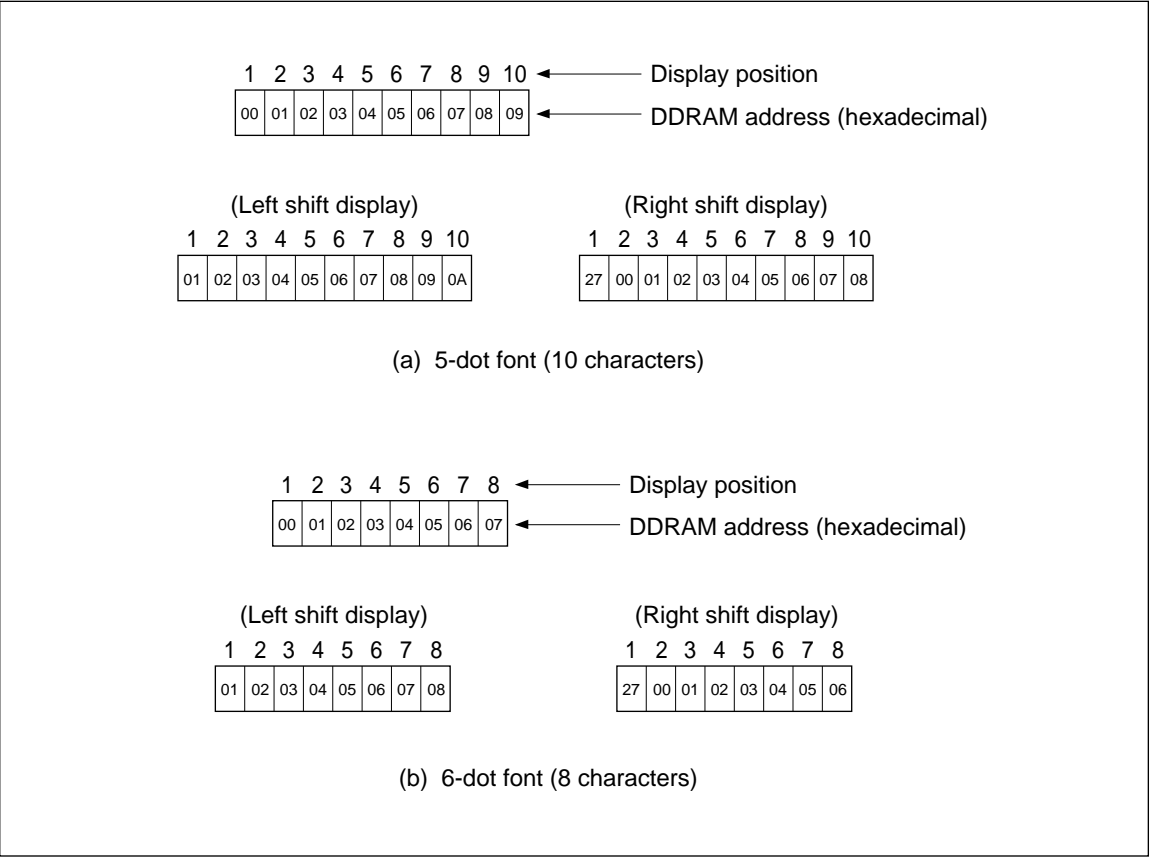

Figure 3 1-Line Display Using One HD66720
- Case 1: When there are fewer than 40 display characters, the display begins at the beginning of DD RAM. For example, when 10 5-dot font-width characters are displayed using one HD66720, the display is generated as shown in figure 3.
When 8 6-dot font-width characters are displayed using one HD66720, the display is generated as shown in figure 3.